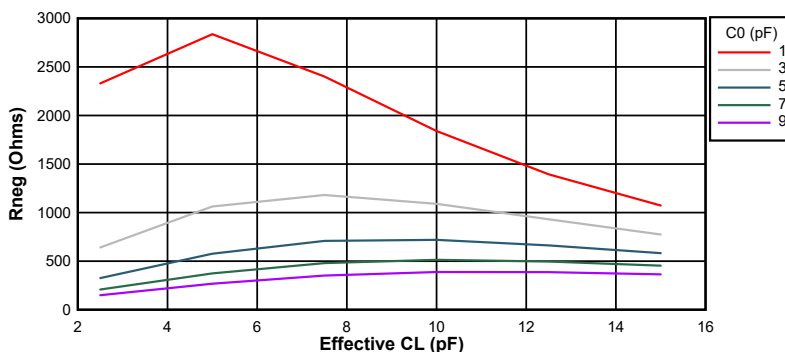
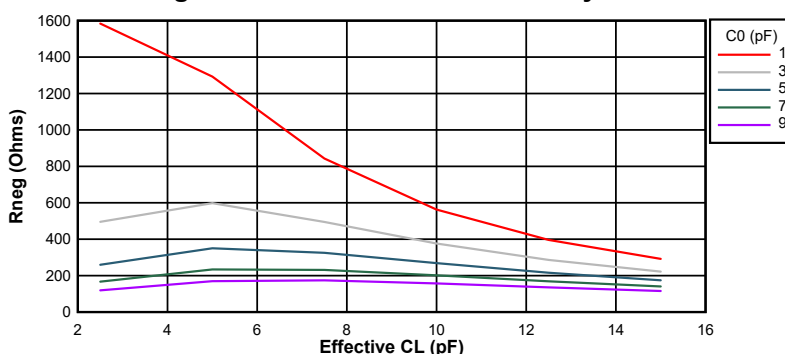

**Figure 7-22. Negative Resistance Variation at 10 MHz**
**Figure 7-23. Negative Resistance Variation at 20 MHz**
Figure 7-22 and Figure 7-23 show the variation between negative resistance and the crystal components for this device. As can be seen from the graphs, the crystal shunt capacitance (C0) and effective load capacitance (CL) greatly influence the negative resistance of the electrical oscillator. Note that these are typical graphs; so, refer to Table 7-8 for minimum and maximum values for design considerations.